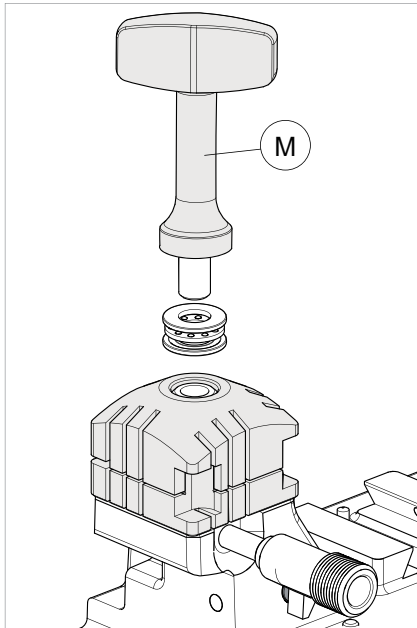

Fig. 43
- 2) Unscrew the knob (M1) and remove together with the washer set (Fig. 43).